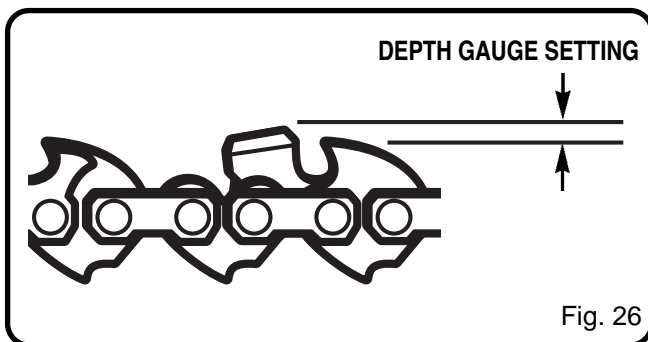

Fig. 26
- Depth gauge (or raker clearance) setting determines the height the cutter enters the wood and the size of the wood chip that is removed. Too much clearance increases the potential for kickback. Too little clearance decreases the size of the wood chip thus decreasing the chain's cutting ability. See Figure 26.